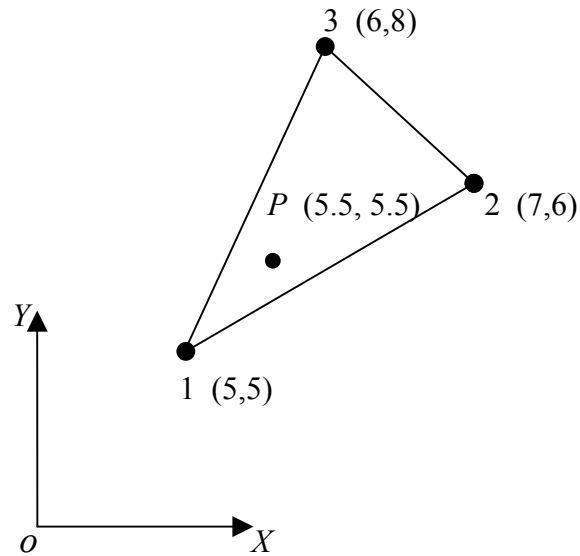

Figure 1. Temperature at an interior point
Q.1. For the three-nodded triangular element shown in Fig. 1, calculate the temperature at the point P , give the nodal temperatures as $T_1 = 100^\circ\text{C}$, $T_2 = 200^\circ\text{C}$, and $T_3 = 300^\circ\text{C}$.